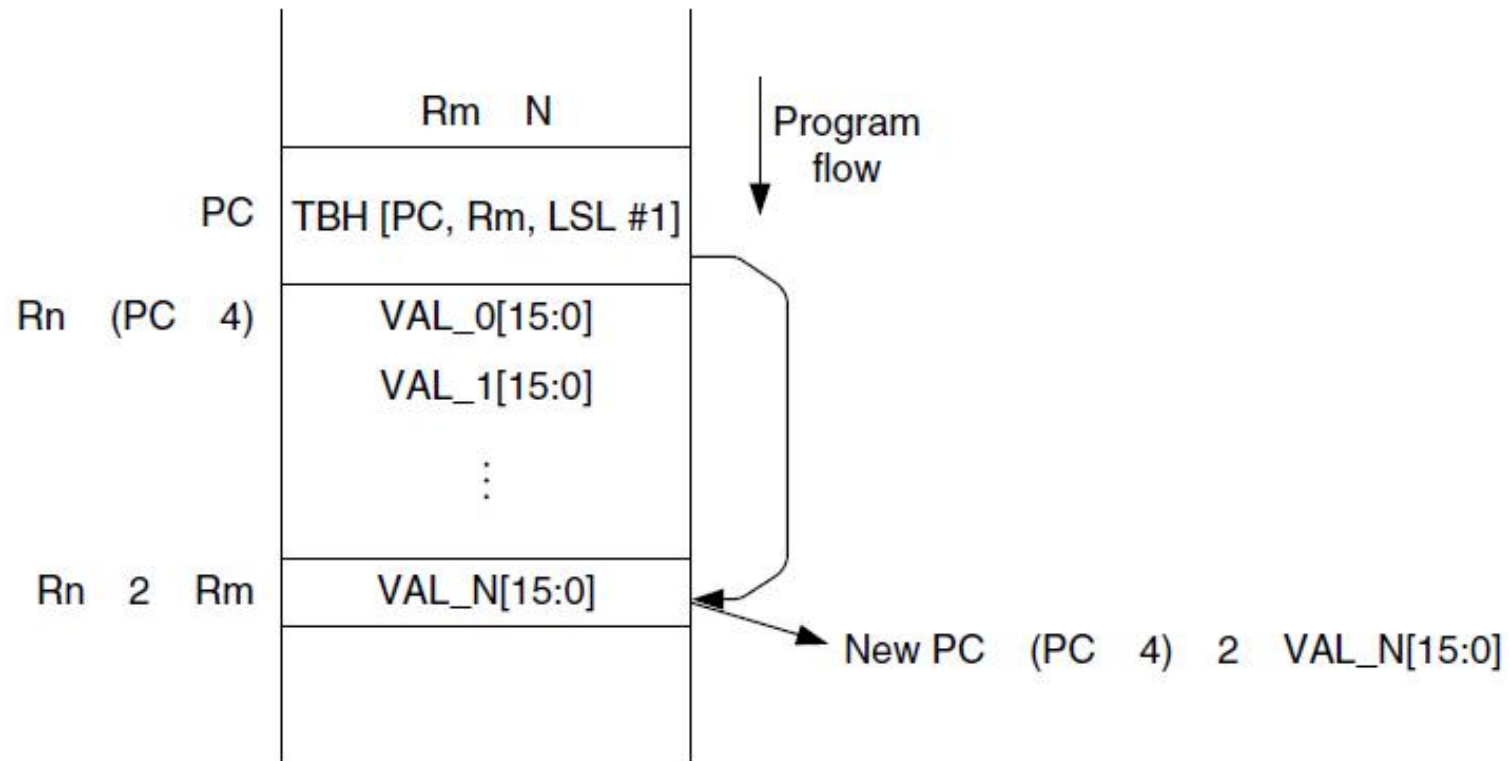

FIGURE 4.6
- Again, we assume that R_n is set to PC, as shown in Figure 4.6.